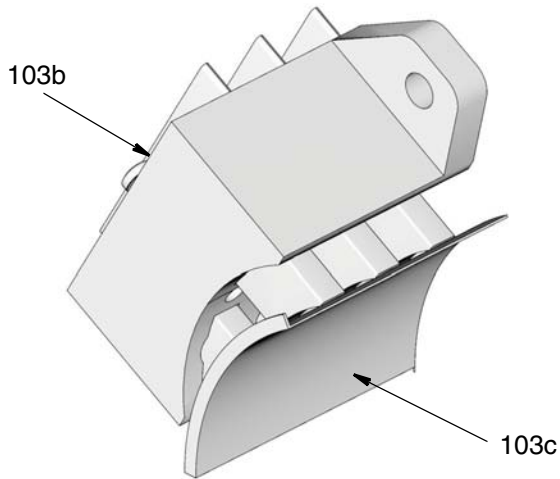

FIG. 23
5. Press tool (103c) onto the slip ring brush bracket (103b) as shown in FIG. 23.